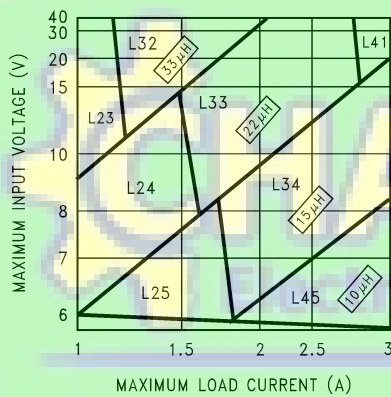
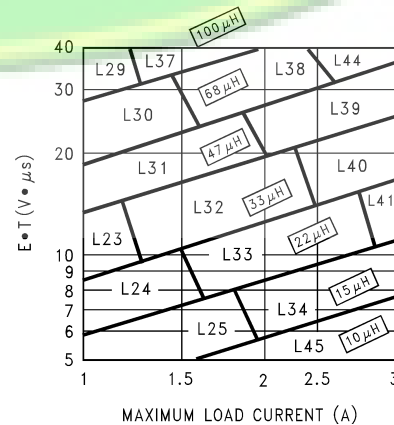

Figure 21. LM2676-3.3
Figure 24. LM2676-ADJ
Step 3: Determine the inductor required by using one of the four nomographs, Figure 21 through Figure 24. Table 1 provides a specific manufacturer and part number for the inductor.
Step 5: Determine an input capacitor from Table 8 or Table 9 for fixed output voltage applications. Use Table 3 or Table 4 to find the specific capacitor type. For adjustable output circuits select a capacitor from Table 3 or Table 4 with a sufficient working voltage (WV) rating greater than $V_{in\ max}$, and an rms current rating greater than one-half the maximum load current (2 or more capacitors in parallel may be required).
Step 3: Use the nomograph for the 3.3V device, Figure 21. The intersection of the 16V horizontal line ($V_{in\ max}$) and the 2.5A vertical line ($I_{load\ max}$) indicates that L33, a 22 μ H inductor, is required.
Step 3: To use the nomograph for the adjustable device, Figure 24, requires a calculation of the inductor Volt•microsecond constant ($E \cdot T$ expressed in $V \cdot \mu\text{s}$) from the following formula:
Using Figure 24, the intersection of $27V \cdot \mu\text{s}$ horizontally and the 2A vertical line ($I_{load \text{ max}}$) indicates that L38, a 68μH inductor, should be used.
When using the adjustable device in low voltage applications (less than 3V output), if the nomograph, Figure 24, selects an inductance of 22μH or less, Table 12 and Table 13 do not provide an output capacitor solution. With these conditions the number of output capacitors required for stable operation becomes impractical. It is recommended to use either a 33μH or 47μH inductor and the output capacitors from Table 12 or Table 13.